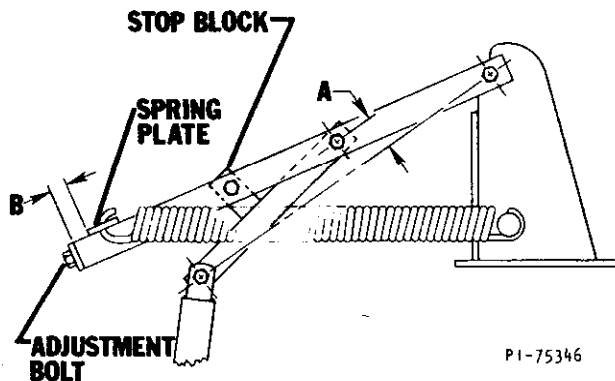

FIG. 17
The stop block maintains the linkage arms distance from center, shown as dimension (A), Fig. 17.